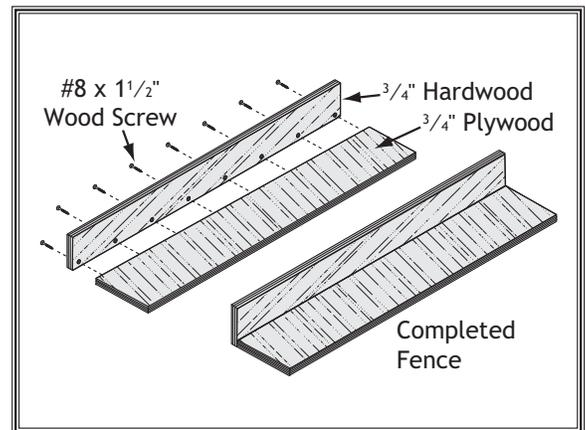

Figure 95. Location of pilot holes.
2. Pre-drill and countersink eight pilot holes $\frac{3}{8}$ " from bottom of 3" wide board, then secure boards together with (8) #8 x $1\frac{1}{2}$ " wood screws, as shown in **Figure 95**.